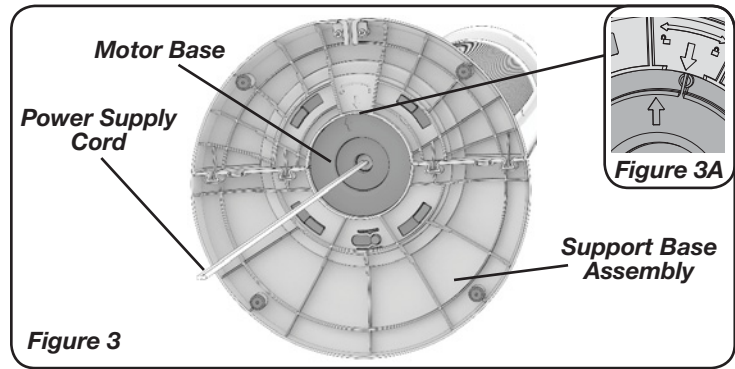

Figure 3
4. To secure the *Support Base Assembly* to the *Motor Base*, hold the *Motor Base* in place while turning the *Support Base Assembly* clockwise (towards to the locked symbol) until it no longer turns and locks in place. (Figure 3 & Figure 3A)